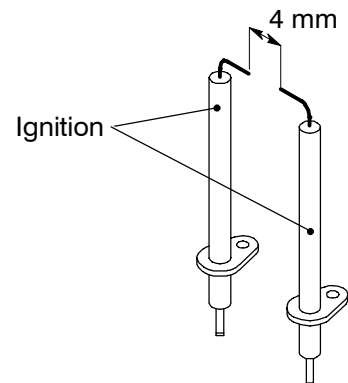

Fig. 3
- 2 Check for the correct distance between the metallic edges of the ignition electrodes (see Fig. 3).